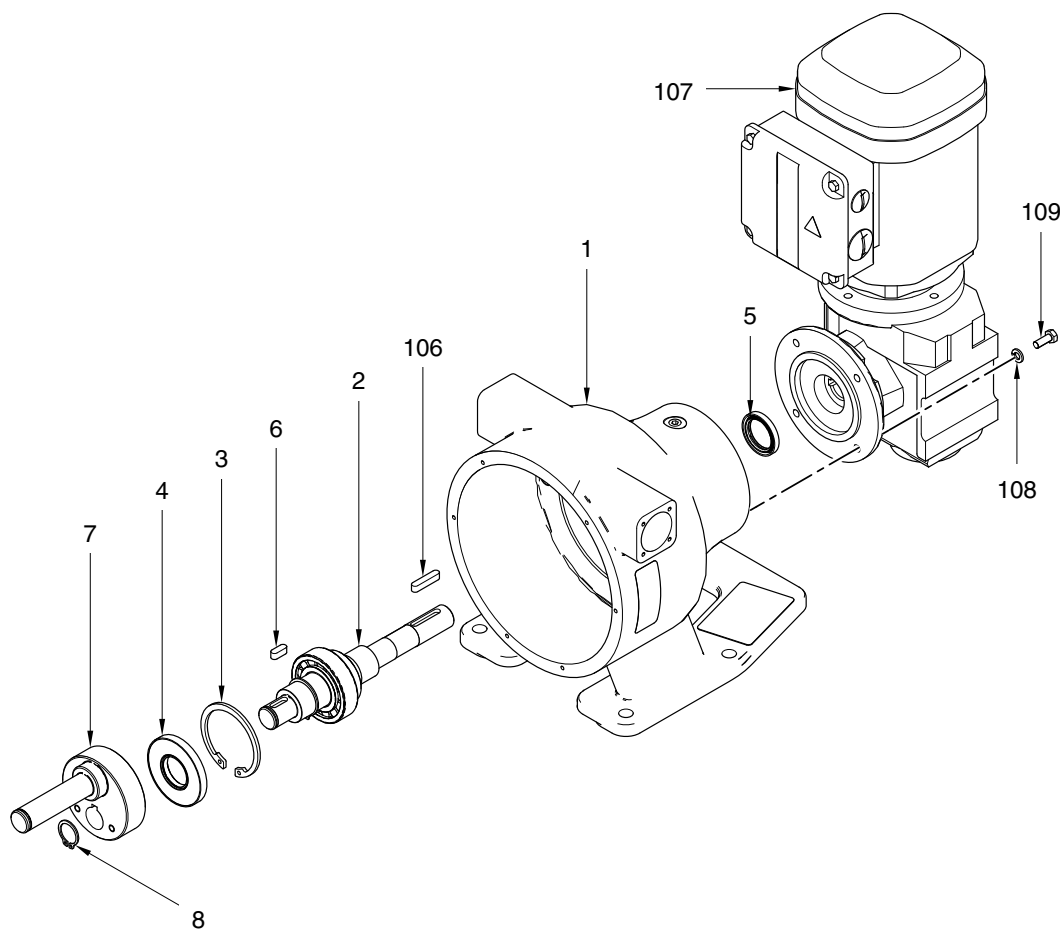

Figure 6 Remove the Eccentric Shaft and Motor Output Shaft
1. Inspect the bearings and make sure that all rotate freely and are seated against the shoulder of the shaft (2). See Figure 6.
3. Insert the shaft (2) into the pump housing (1) from the front, making sure that the bearings engage the bearing bore flush and straight. Tap the roller end of the shaft with a rubber mallet until the shaft is firmly seated in the pump housing.